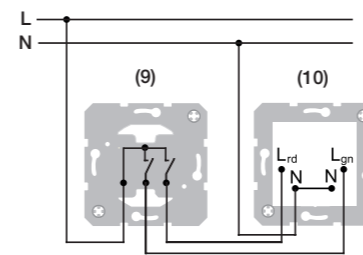

Figure 3: Connection example of LED signal light, red/green lighting
- Connect LED signal light according to connection example (Figure 3). Instead of the series switch (9) that should switch both colours separately, a change-over switch that merely enables a change-over of both colours can also be used: